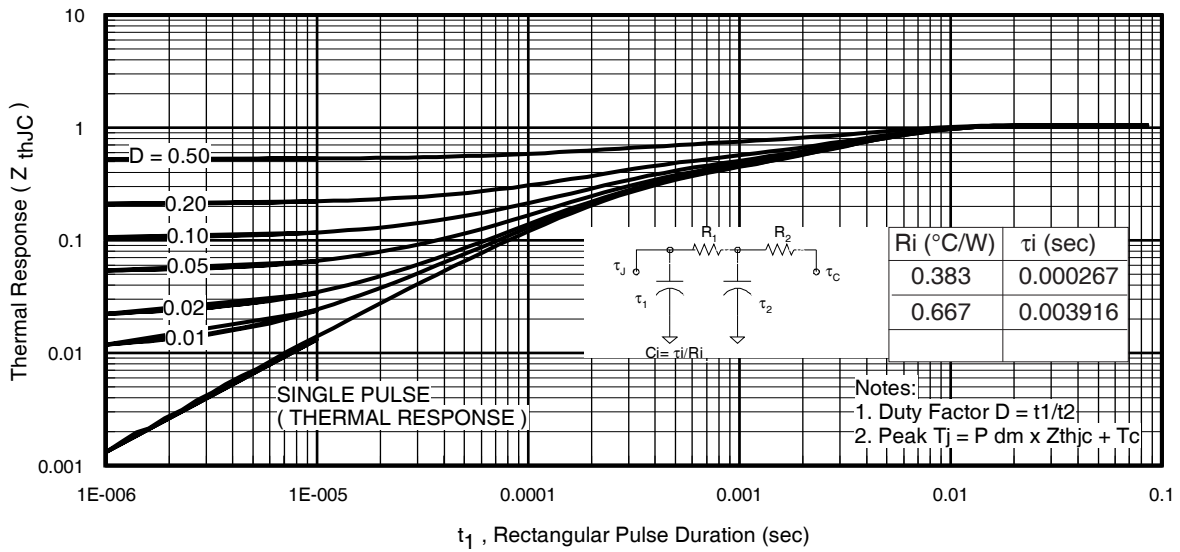
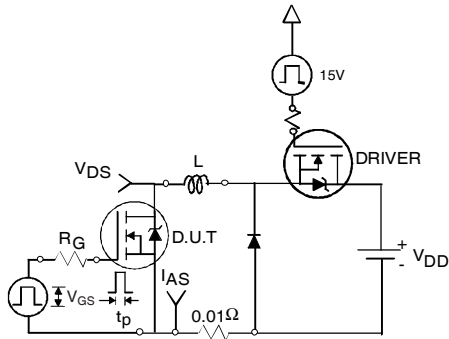

Fig 11. Maximum Effective Transient Thermal Impedance, Junction-to-Case
Fig 12a. Unclamped Inductive Test Circuit
- ① Repetitive rating; pulse width limited by max. junction temperature. (See fig. 11).
- ② Limited by T_{Jmax} , starting $T_J = 25^\circ\text{C}$, $L = 0.16\text{mH}, R_G = 25\Omega$, $I_{AS} = 38A, V_{GS} = 10V$. Part not recommended for use above this value.
- ③ Pulse width $\leq 1.0\text{ms}$; duty cycle $\leq 2\%$.
- ④ $C_{oss\text{ eff.}}$ is a fixed capacitance that gives the same charging time as C_{oss} while V_{DS} is rising from 0 to 80% V_{DSS} .
- ⑤ Limited by T_{Jmax} , see Fig.12a, 12b, 15, 16 for typical repetitive avalanche performance.
- ⑥ This value determined from sample failure population. 100% tested to this value in production.
- ⑦ When mounted on 1" square PCB (FR-4 or G-10 Material).
- ⑧ R_θ is measured at T_J approximately 90°C .
- ⑨ Calculated continuous current based on maximum allowable junction temperature. Bond wire current limit is 42A. Note that current limitations arising from heating of the device leads may occur with some lead mounting arrangements.
3. Equation below based on circuit and waveforms shown in Figures 12a, 12b.
$Z_{thJC}(D, t_{av})$ = Transient thermal resistance, see figure 11)